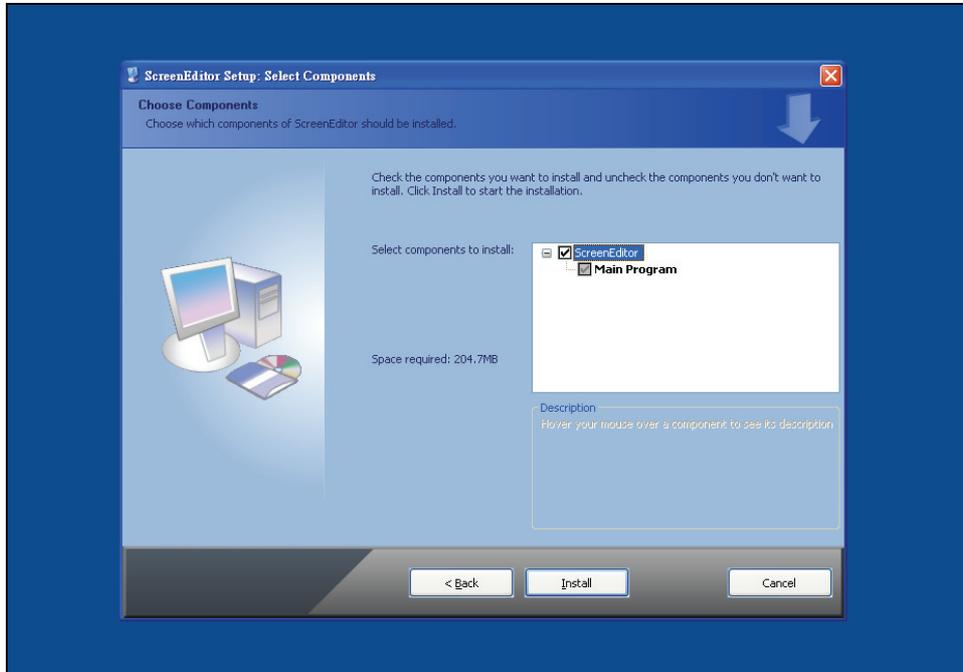

Fig. 2.1.4 Select ScrEdit
3. Step 3: After pressing **Next**, system will ask you to select the installation software, i.e. ScrEdit (Fig. 2.1.4).